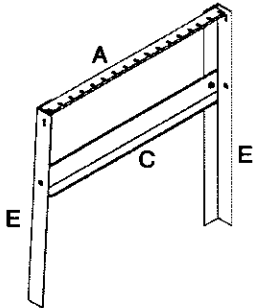

Figure 2 – Assemble Leg Set
- Assemble a long upper cross brace (A) and a long lower cross brace (C) to the two legs (E). The braces are assembled to the **INSIDE** of the legs (see Figure 2).